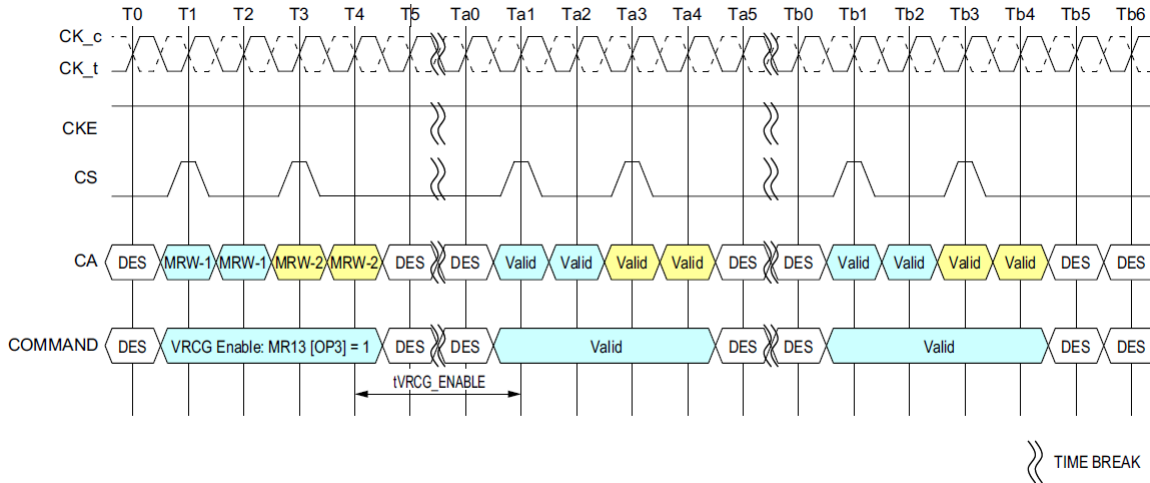

Figure 80: VRCG Enable timing
LPDDR4 SDRAM Vref current generators (VRCG) incorporate a high current mode to reduce the settling time of the internal Vref(DQ) and Vref(CA) levels during training and when changing frequency set points during operation. The high current mode is enabled by setting MR13[OP3] = 1_B. Only Deselect commands may be issued until t_{VRCG_ENABLE} is satisfied. t_{VRCG_ENABLE} timing is shown in Figure 80.